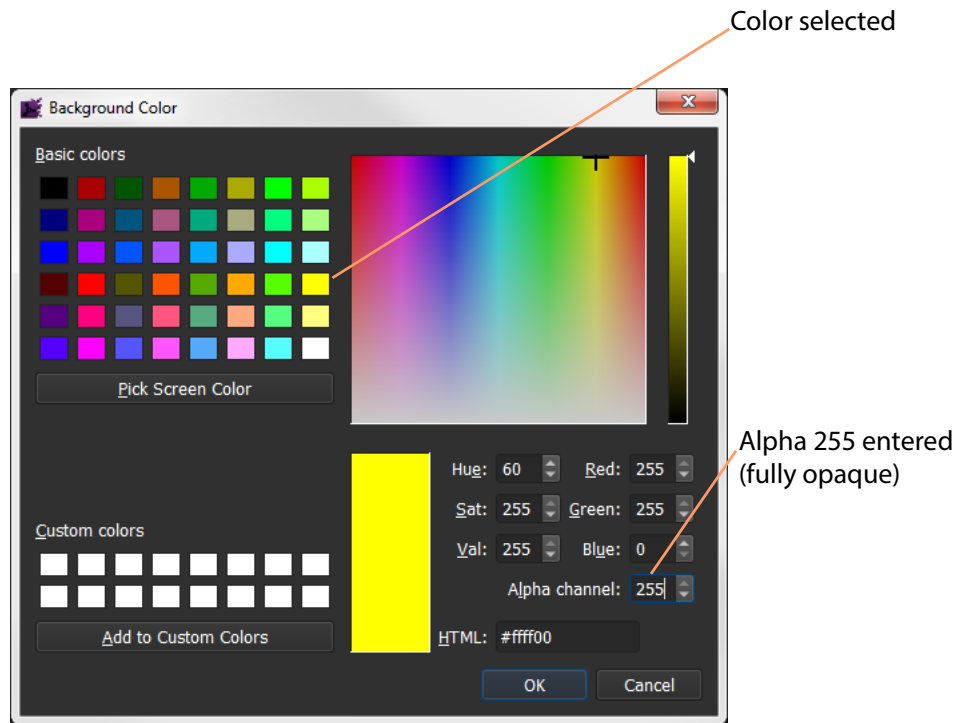

Fig. 4-86: Color Picked
- 5 Click on the  icon to show the **Background Color** dialog. See Figure 4-86 on page 187.